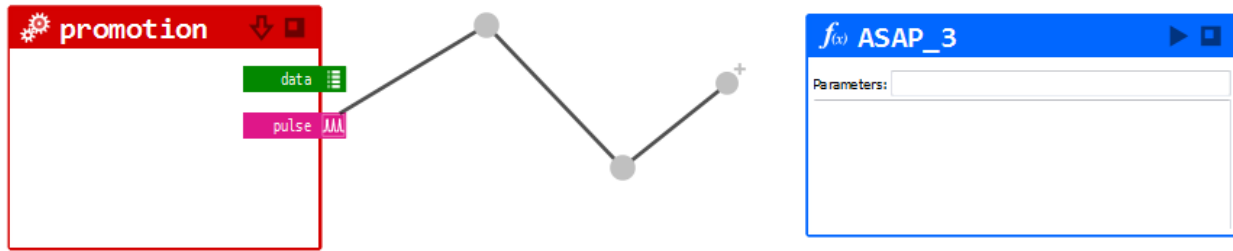

Fig. 3.22: Waypoints can be created during link creation.
Step 3: Waypoints can be created during link creation by simply clicking blank canvas locations as shown in Figure 3.22. The new waypoint will be set and link creation will continue.